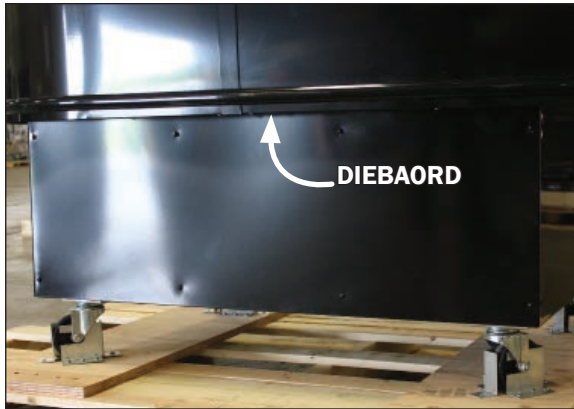

Fig. 9 Dieboard underside switch location
2. If the case does not start-up after all of the above steps have been followed depress the pressure switch (Fig. 9)